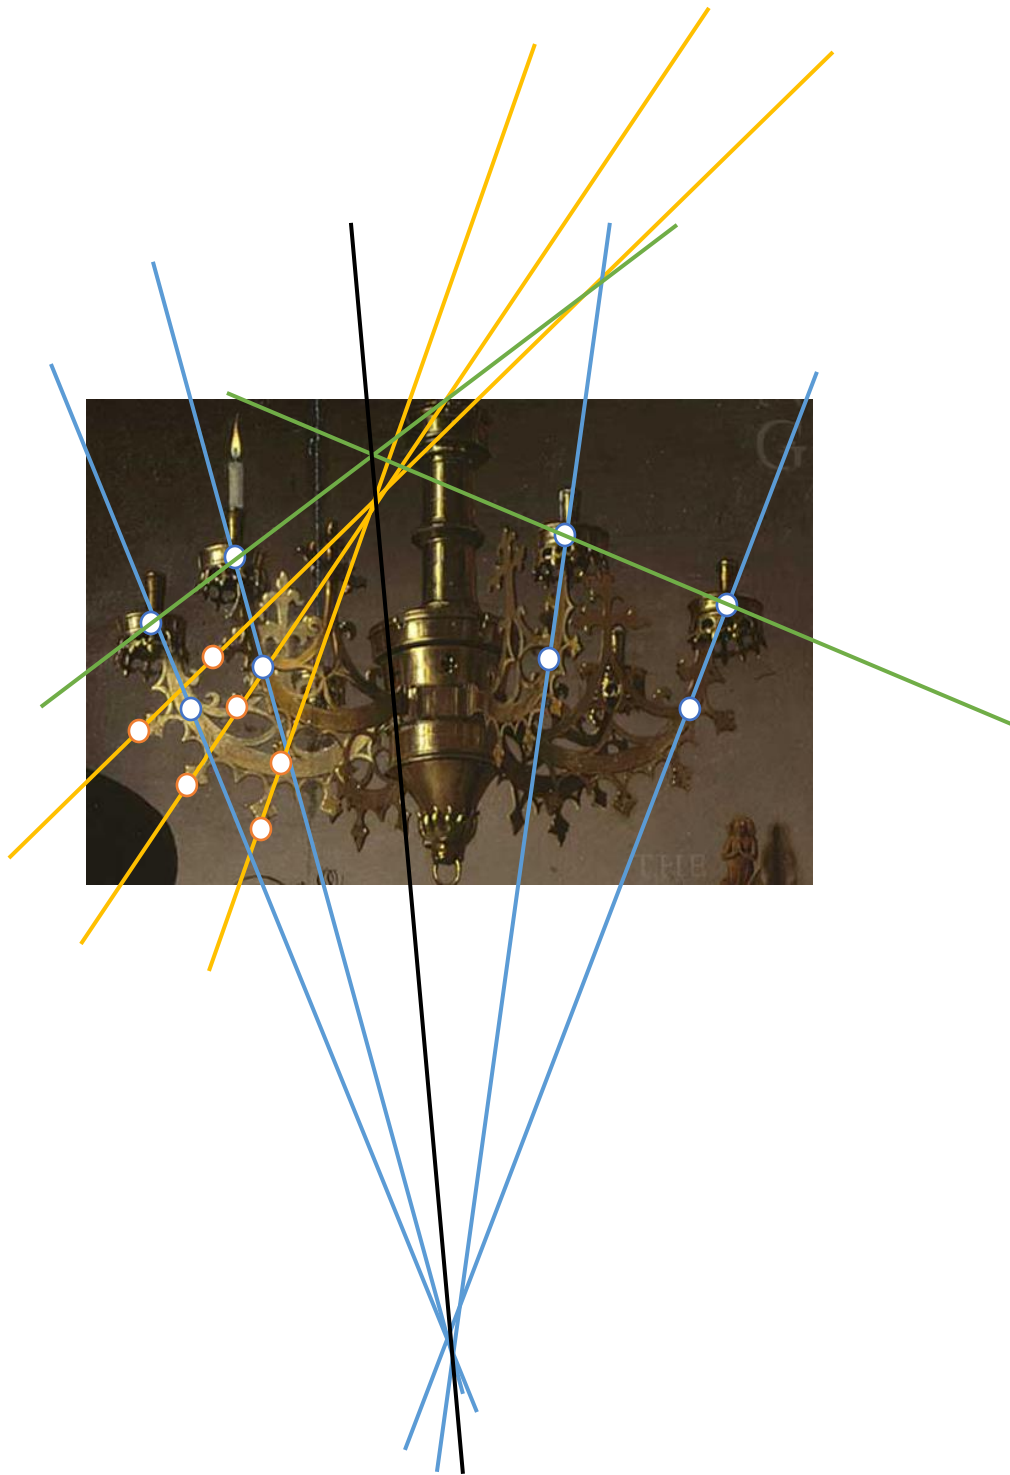

Figure 3. Image of a chandelier with parallel lines, vanishing points and the horizon
In Figure 3, we can see 3 sets of parallel lines marked in blue, green and yellow, all sets meeting at their vanishing points. The blue parallel lines connect the candle stand and arm below that is extended from the main tower, both of which are marked in blue circles. The yellow parallel lines connect the 3 artifacts under the arms adjacent to each other and on left side of the chandelier. The green parallel lines candle stands on either side of the chandelier's main tower.
2. The set of parallel lines indicated by blue, yellow and green are all on the same plane and their vanishing points are collinear. The line joining all 3 vanishing points forms one of the horizons for the image and is indicated in black in Figure 3.